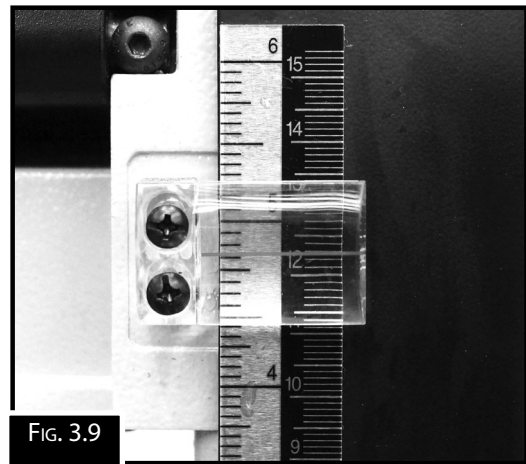

FIG. 3.9
**Thickness Scale:** The Depth of cut can also be read directly from the inch/millimeter scale on the front of the thicknesser, as shown. (Fig. 3.9)